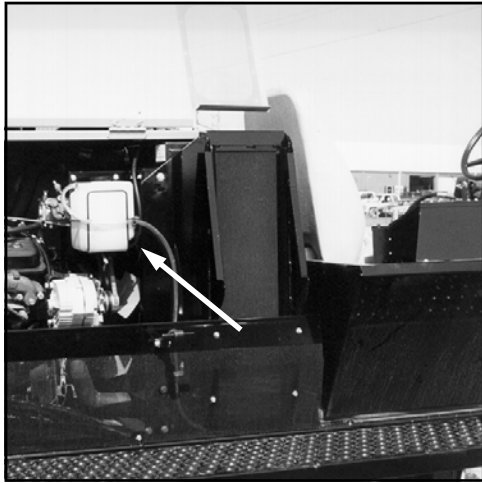

FIG 7.10
**COOLANT RESERVOIR** - The coolant reservoir is located under the right-hand hood behind the radiator (fig 7.10). Check its level everyday while the engine is cold. Maintain the coolant reservoir level within the normal cold range marks.